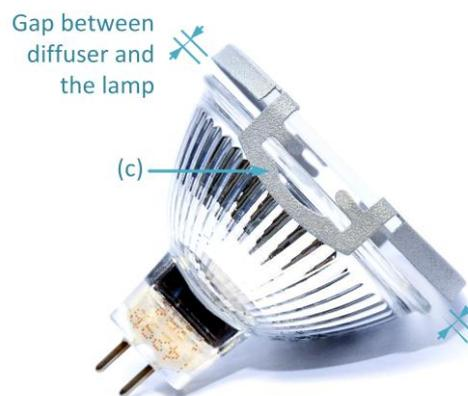

Figure 28 Mounting diffuser on the lamp (Step 4.3c)
- c. Press the diffuser on to the lamp such that the top edge of the lamp gets locked in to the clip of the diffuser, as shown in Figure 28.